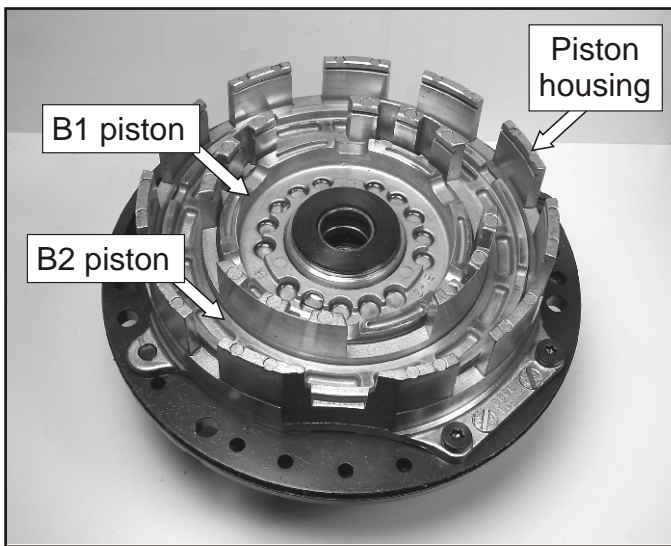

Figure 104
53. Refer to Figure 104 for piston identification.